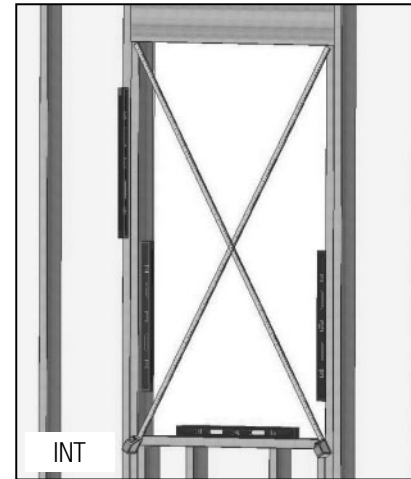

FIG. 4
- B) Verify the rough opening is flat, plumb, level and square. (Fig. 4)
- C) Take diagonal measurements to check for square. (Fig. 4)